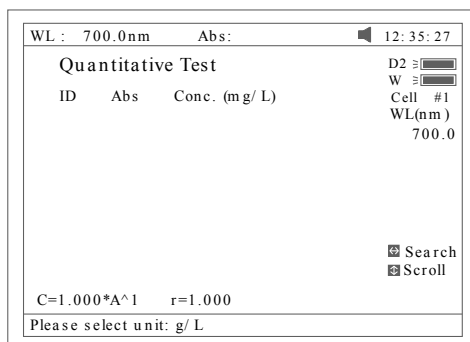

Fig 27
- Press [F1] to select unit of concentration (Fig 27).